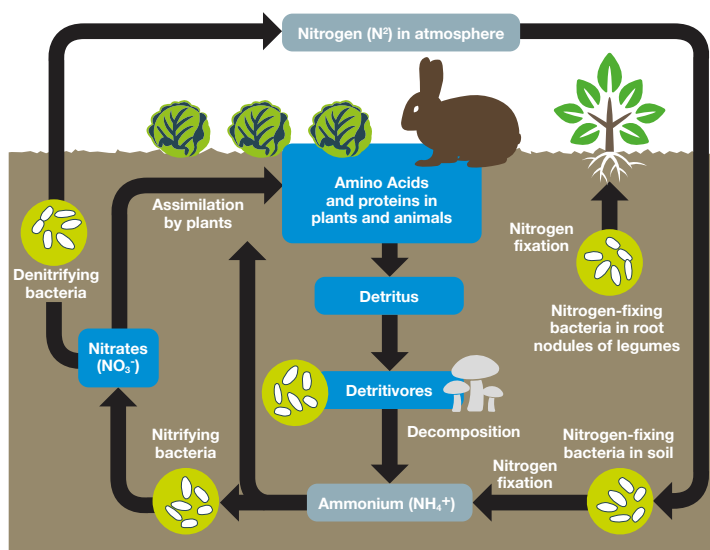

Figure 71. The nitrogen cycle
- The aim of this study is to investigate how real time in-situ nitrate sensors may improve the efficiency of nitrogen inputs (Figure 71)